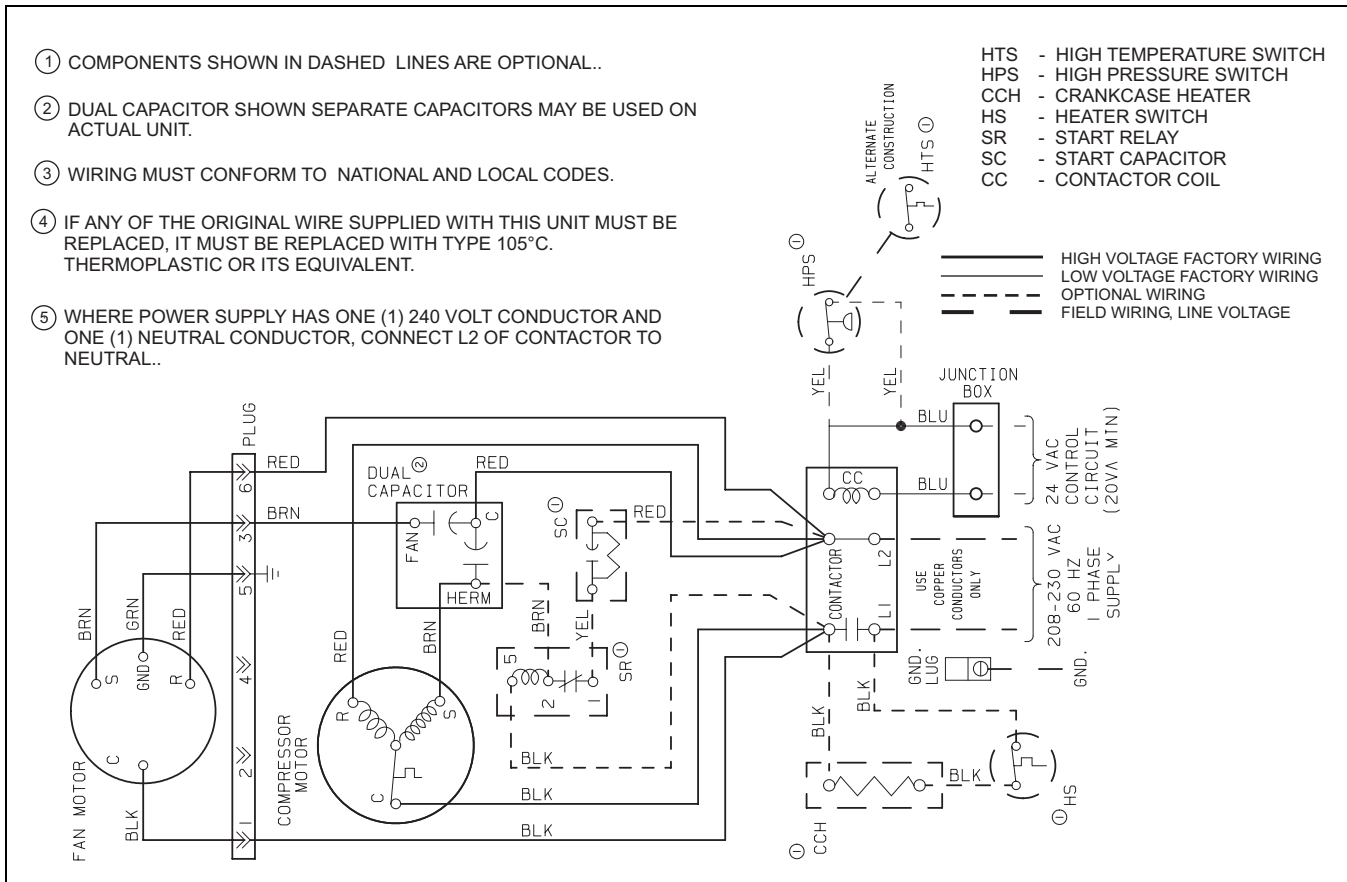

FIGURE 2
6. Attach the brown lead wire from the starting kit relay #2 to the same terminal on the dual capacitor which was located in Step 4. See Figure 2.
NOTE: The wiring of the capacitor and relay must agree with Figure 2. Also, see diagram on control box cover.